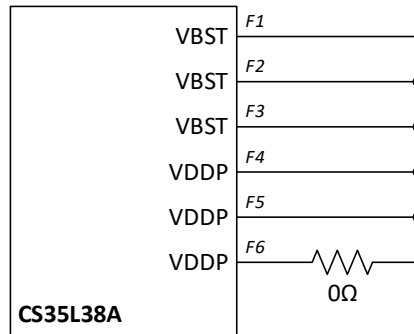

Fig 1: 0-Ω resistor placed on F6 (VDDP)
**Q1:** If a 0-Ω resistor is placed between the F6 (VDDP) ball and the power supply net (see Fig 1), how much current may pass through it?